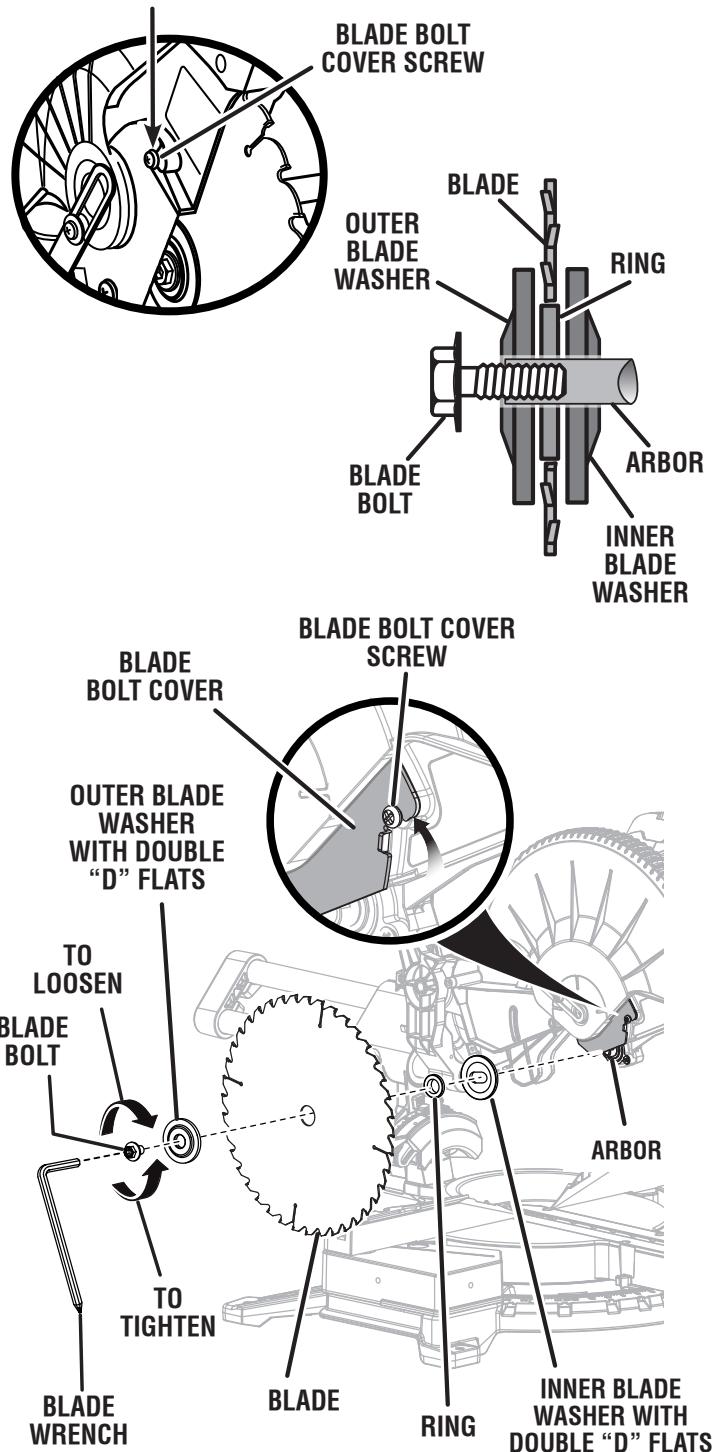

Fig. 14
See Figure 14.
- Fit saw blade inside upper blade guard and onto the outer diameter of the ring and against the inner blade washer. The blade teeth point downward at the front of saw as shown in figure 14.